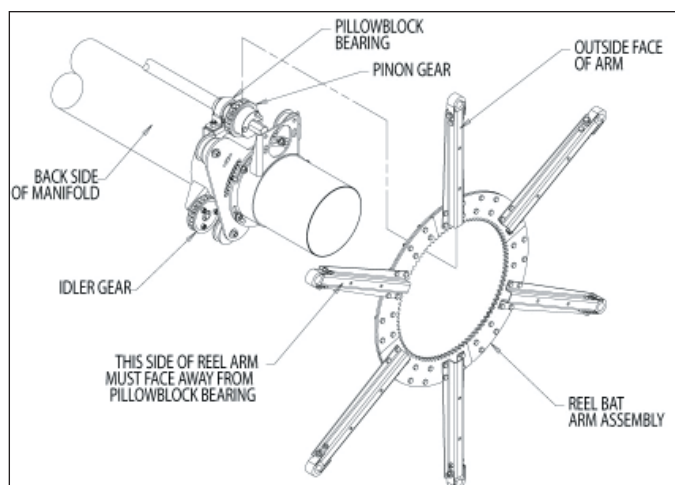

Figure 24, Reel bat arm installation
1. Slide the reel bat arm assemblies over the manifold assembly. Position each assembly onto the pinion gears and the idler gears of the manifold assembly (Figure 24).